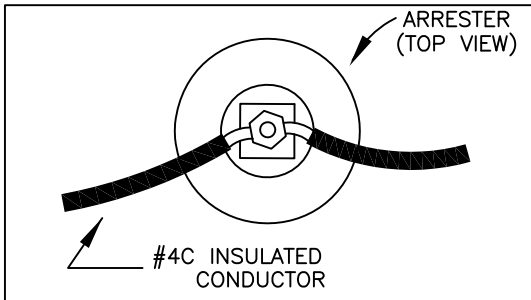

FIGURE 1
2. REMOVE INSULATION AR ARRESTER LOCATION AND ATTACH CONDUCTOR TO ARRESTER AS SHOWN IN FIGURE 1.